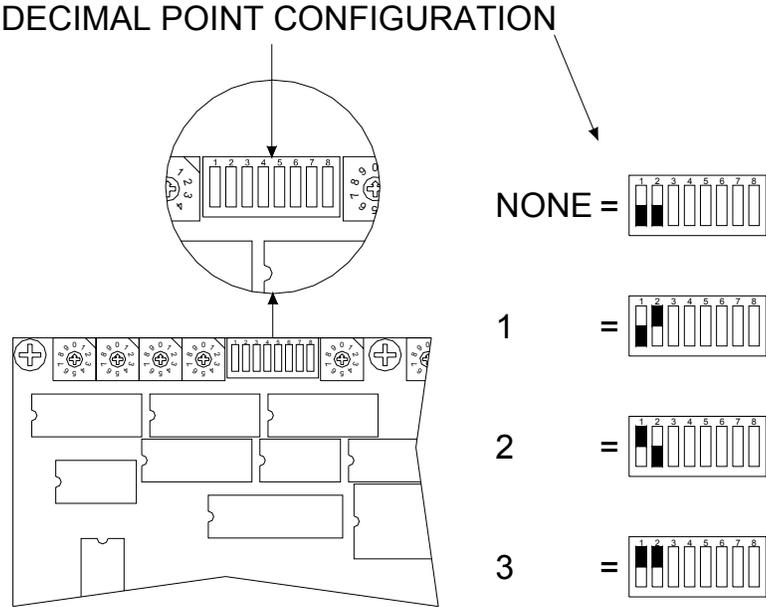

Figure 2.2: Decimal Point Configuration
- 2) Set the dip switches to the desired setting as shown in Figure 2.2 above.